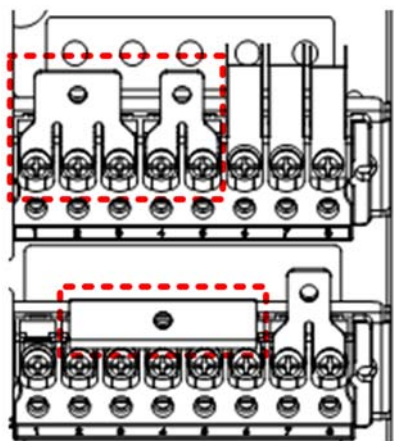

Figure 8-13 3-in 1-out, split bypass configuration (2)
- b) Install the bypass input copper shorting bars to terminals (bA, bB, bC), and use the output shorting copper bars to connect the output terminals (oA, oB, oC) together. See Figure 8-13.